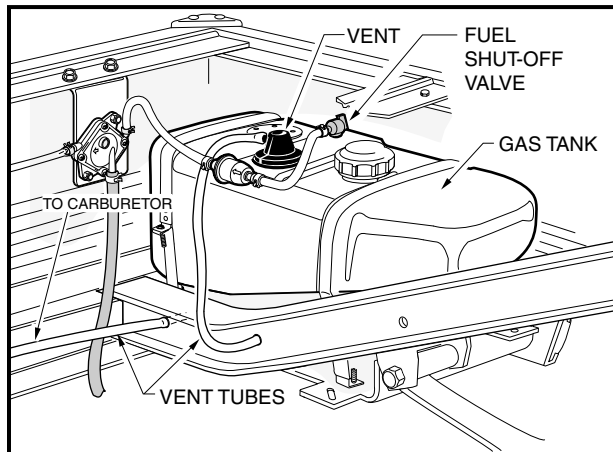
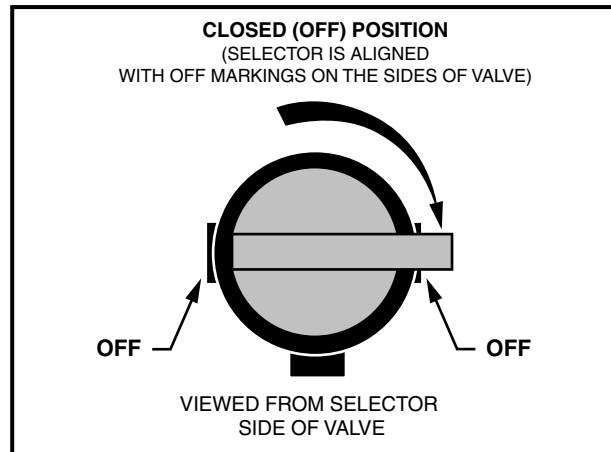
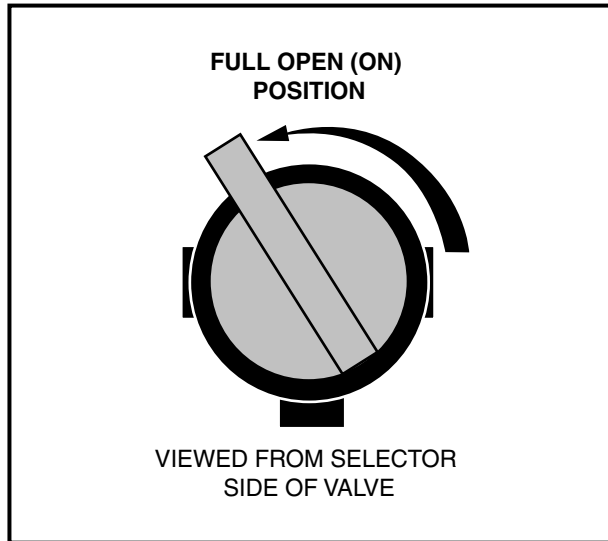

Figure 3-17 Fuel Tank, Vent and Lines
Figure 3-18 Fuel Shut-Off Valve - OFF Position
Figure 3-19 Fuel Shut-Off Valve - ON Position
2. Turn the key switch to OFF and place the Forward/Reverse handle in the NEUTRAL position. Remove the key when the vehicle is not in use. For gasoline vehicles, turn the fuel shut-off valve to closed (OFF) position when the vehicle is not in use (**Figure 3-18, Page 3-15**).
- **GASOLINE VEHICLE ONLY:** TURN FUEL SHUT-OFF VALVE TO CLOSED (**OFF**) (**FIGURE 3-18, PAGE 3-15**).
- 3.1. Place the Forward/Reverse handle in the NEUTRAL position and the neutral lockout cam in the SERVICE position (**Figure 3-9, Page 3-6**). Turn the fuel shut-off valve to the closed (OFF) position (**Figure 3-17, Page 3-15 and Figure 3-18, Page 3-15**) and run the engine until fuel remaining in the carburetor and fuel lines is used up and the engine stalls. Return the neutral lockout cam to the OPERATE position (**Figure 3-10, Page 3-6**).
- 1.1. Remove plug from the fuel tank vent nipple and connect the vent line to the nipple. Turn fuel shut-off valve to open (ON) (**Figure 3-17, Page 3-15 and Figure 3-19, Page 3-16**). Make sure the